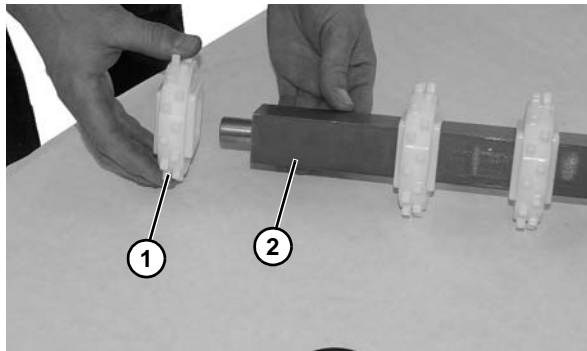

Figure 59
13. Remove sprockets (**Figure 59, item 1**) off the drive spindle (**Figure 59, item 2**). Inspect and replace if worn.